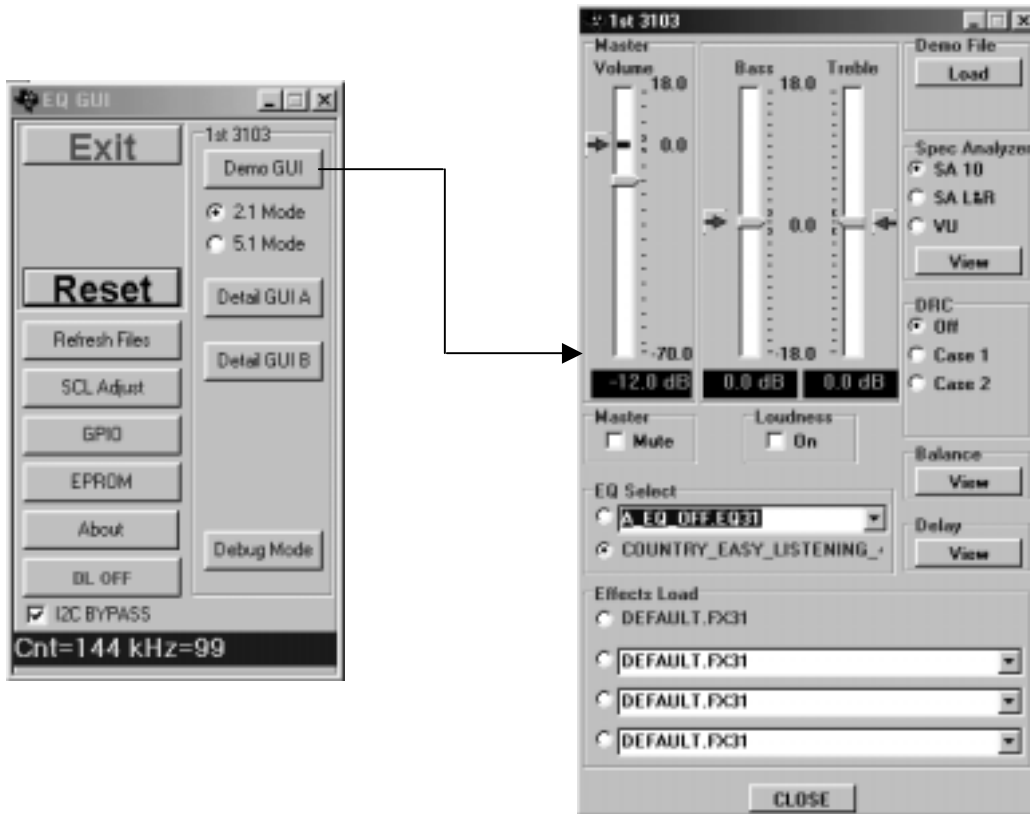

Figure 2. TAS3103 GUI Working and DEMO Panels
If the TAS3103EVM is hooked up to a PC by (1) connecting the “paddle” board to the parallel port of the PC and (2) attaching a cable between the “paddle” board output connector and the TAS3103EVM, the EQ_GUI.dat file is the correct file selection. (The “paddle” board and connecting cable are supplied with every TAS3103EVM). Clicking on the Open button brings up the left panel shown in Figure 2.
Clicking on the Demo GUI button brings up the Demo panel - the right panel in Figure 2. The 2.1 mode option is selected when the panel comes up, but for the purpose of accessing the EQ examples, the 5.1 mode option can also be selected. Country_Easy_Listening_44 is the EQ filter selected when the panel comes up. Clicking on the down arrow on the window that reads A_EQ_OFF.EQ31 can access the other five EQ filter examples. The selection A_EQ_OFF.EQ31 is a seventh EQ filter selection that turns off equalization by setting all the biquad filters in the TAS3103 as pass through devices. The extension .EQ31 identifies the selection as an equalization or EQ filter.